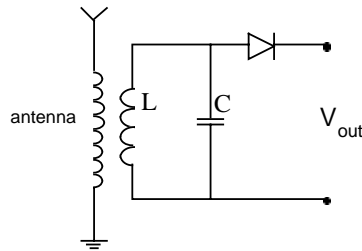
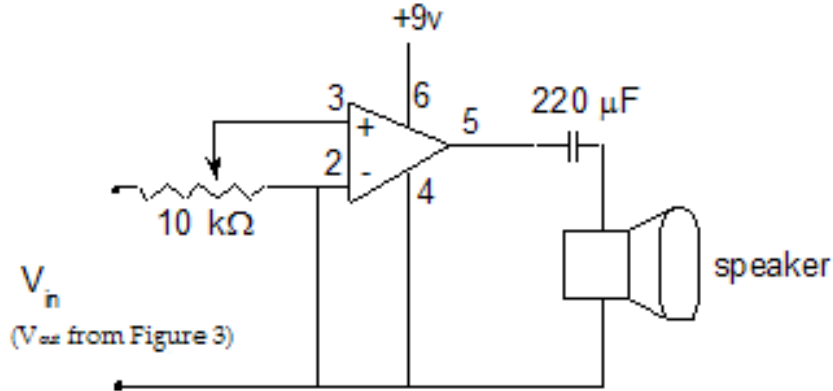
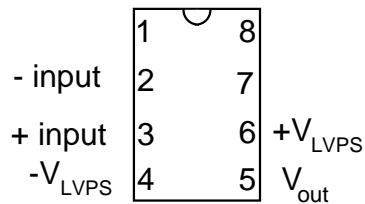

Figure 1
Figure 2
Figure 3
- (i) To design and build your AM radio receiver, first investigate the workings of Amplitude Modulation (AM) as the original method used for transmitting sound with radio waves, as compared to more recently used Frequency Modulation (or FM), single side band (SSB), pulse code modulation (PCM), etc. (To learn more about modulation see *Information Transmission, Modulation, and Noise* by Mischa Schwartz. This book is available in the Science Library at Wellesley.) Alternatively, you can find a lot of this information online; however, be careful in terms of choosing your sources, since not all of them are credible. Please, note that for commercial AM broadcast stations in the U.S., the frequency of the carrier is between 500 and 1500 kHz.
**Some Subtleties: Tuning the radio to your favorite (AM) station – the LC circuit.** (Please, write up relevant for your radio calculations that you that you are doing in the rest of this project. Make sure that it is clear what you are calculating but be brief and treat it as a problem set type of write-up.)
- (i) Build and investigate a parallel LC circuit, such as the one shown in Figure 1; particularly, investigate and find theoretically and validate experimentally a resonance frequency,  $f_0$  of this circuit.
The front end of your radio takes the signal from the antenna, selects the frequency with the LC circuit, and then passes the signal through a diode. (Remember that the diode provides a non-linearity that reconstructs the voice signal.) The circuit diagram for the front end of the radio is shown in Figure 1. Notice how the antenna is connected to a coil that is next to the coil for the LC circuit. So, a signal in the antenna induces a magnetic field, which in turn induces a current in the LC circuit.
Put together the circuit shown in Figure 1. The components should be mounted on a piece of wood/blue foam/... that will prevent them from moving, which would alter the resonant frequency of the circuit. To test the front end, use an oscilloscope to verify that your LC circuit is working. Try connecting a function generator to the antenna and measuring the voltage across the capacitor as you adjust the frequency of the function generator through the expected resonance. Graph the voltage across the capacitor as a function of the frequency of the sine wave. What is the actual resonance frequency? Use this setup to calibrate your variable capacitor so that you can tune to your favorite (AM) radio station later.
The signal from the diode ( $V_{out}$  in Figure 1) is not powerful enough to drive a speaker. To drive a speaker, you need an amplifier. Fortunately, amplifiers are easy to build. We will use an amplifier chip called an LM386. Figure 2 shows a potential circuit diagram of the amplifier. ( $V_{out}$  from Figure 3)
The connections on the LM386 chip are shown in Figure 3.
The circuit is shown in Figure 2. The 9 volts from the LVPS that you can optionally build (please, see the description of how to build it below) or a 9-V battery must be turned on before you attach the input ( $V_{in}$  in Figure 2) to pins 2 and 3 or else the amplifier may be damaged. Set the function generator to produce a 1 kHz signal for use as an input to the amplifier. Connect the oscilloscope to show what the voltage between pin 3 and ground. Rotate the volume control resistor until you get a signal with the largest amplitude. Now look at the voltage across pin 5 and ground. This is the amplified version of the previous signal. If the signal is not amplified, check your connections.